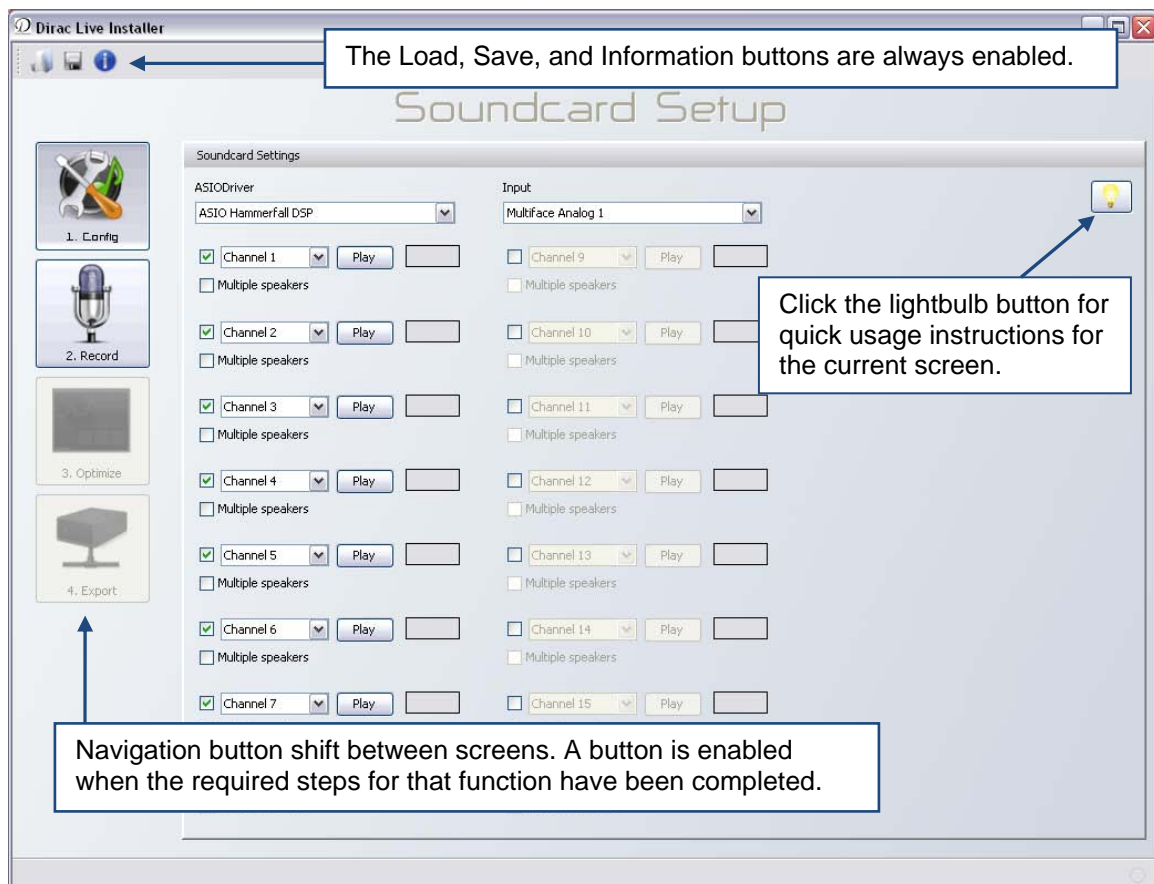

Figure 5. Dirac Live® Soundcard Setup Screen
1. Start Dirac Live® by clicking on the **Start Dirac Live** button in the lower right corner in the AP20 Dirac Live® Configuration Screen on the laptop. Figure 5 shows the opening screen.